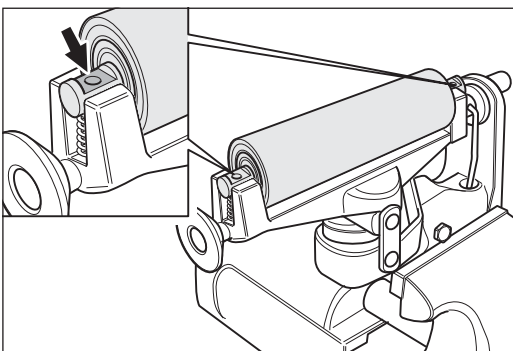

Fig. 90 Insert the new tensioning roller, ensuring that the surfaces on the shaft ends are pointing upwards!
- 6 Insert the compression spring and the tensioning roller. Ensure that the surfaces on the shaft ends of the tensioning roller are pointing upwards (Fig. 90)!